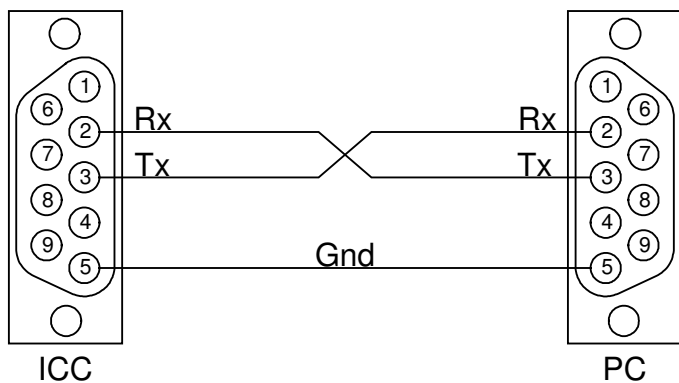

Figure 4. ICC to PC Connection
The connection cable pin-out is show below in Figure 4.
- 4) Check that the cable wiring is correct – refer Figure 4.